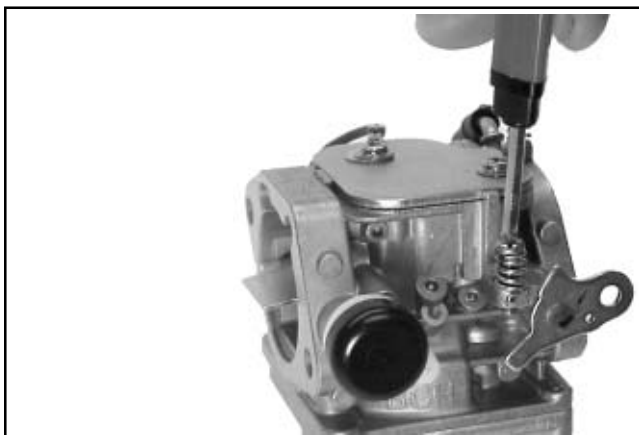

Figure 5-26. Installing Idle Speed Adjusting Screw and Spring.
18. Place the shorter new spring onto the idle speed adjusting screw and install it into the carburetor. Thread in until **3 or 4 threads** are exposed, as an initial adjustment. See Figure 5-26.